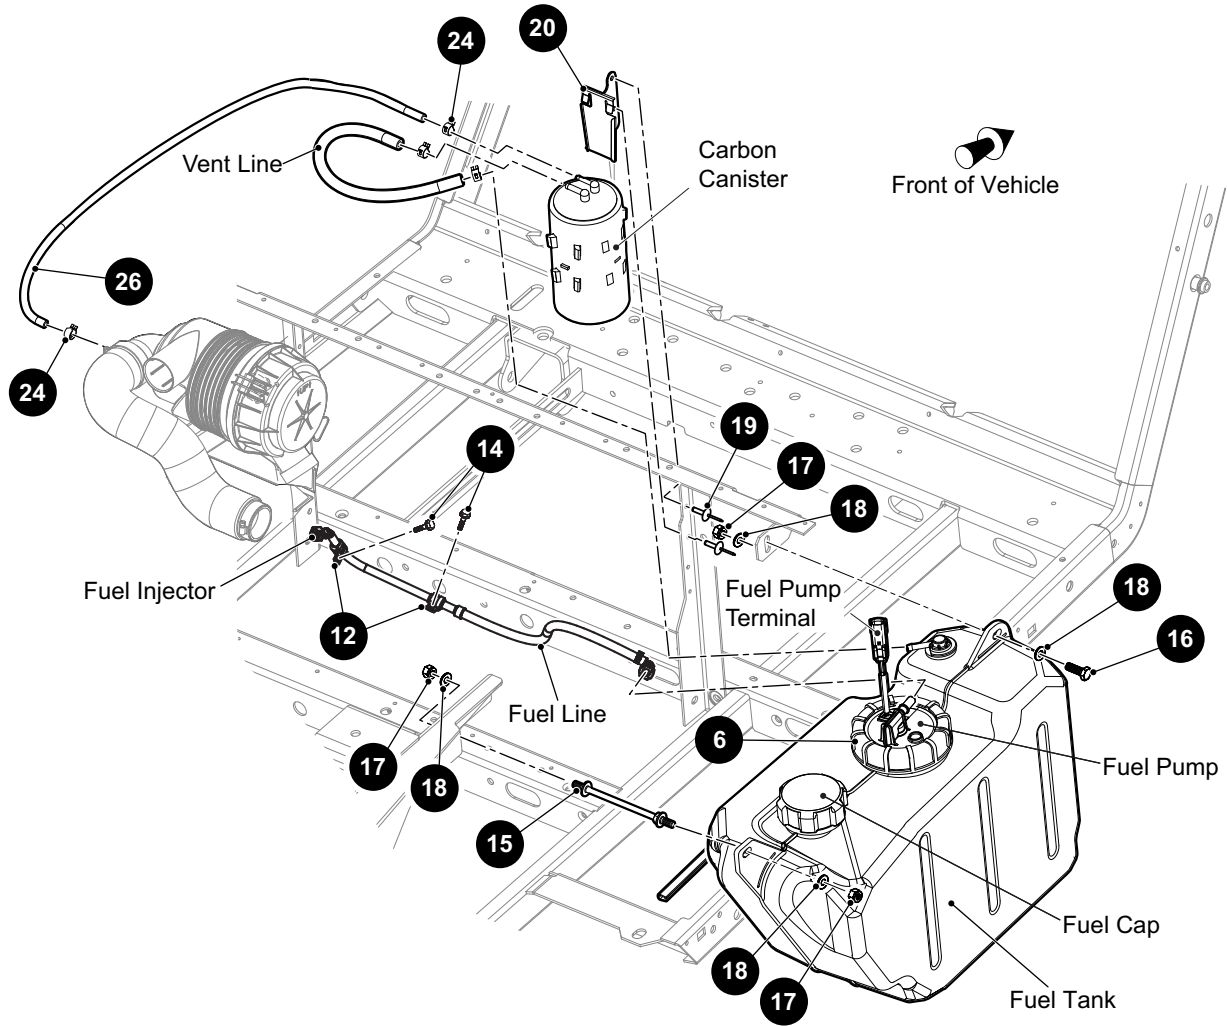

Fig. 1 Fuel System
An electric fuel pump supplies fuel from the fuel tank to the engine injection system through the fuel line (See Fig. 1). The fuel filter is located in the fuel tank along with the fuel pump.
The fuel tank, fuel line, vent line and fuel tank cap should be checked frequently for leaks, clogs or damage (See Fig. 1).
5. Disconnect the tube (12) to the carbon cannister.
6. Remove the forward hex nut (17), washers (18), and bolt (16).
7. Remove the rear nut (17), washers (18) and spacer (15).
9. Installation is in reverse order of removal (Ref. Fig. 1).
5. Remove the screw (14) that secures the fuel line to the engine.
- To remove the carbon canister (22), disconnect the EVAP hose (12) from the carbon cannister (22) (Ref. Fig. 1).
- Disconnect the fuel line hose (26) from the carbon canister (22).
- Press the tabs on the mounting bracket (20) and slide the canister upward.
- To install the carbon canister (22), position the canister ears above the mounting bracket (20) and push against the bracket and slide the canister (22) onto the bracket past the tabs.
- Install EVAP hose (12) on the tube closest to the mounting bracket.
- Install the fuel line hose (26) on the remaining tube.